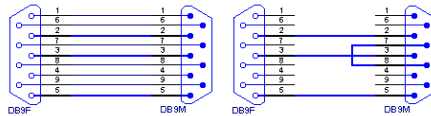

Fig 2: Serial cable DB9F-DB9M and 3-core cable
- Note:* If serial communication cannot be established and all parameters of communication are correctly set (speed, parity, etc.), then we recommend to remeasure the cable according to the **Fig 1** on pg 1. or **Fig 2** on pg 3. (especially pin connection 2 and 3).